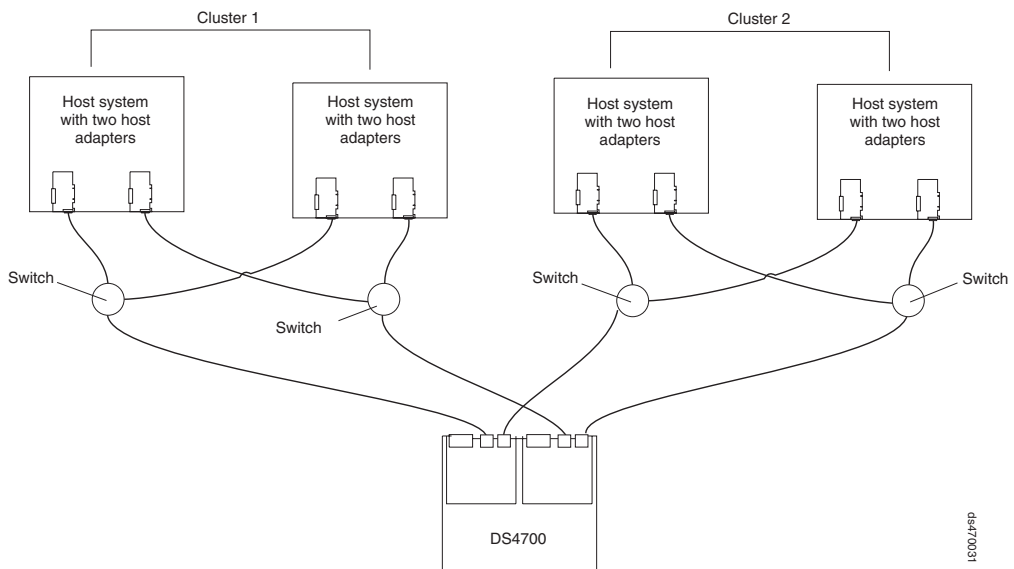

Figure 90. Example of a two-cluster configuration
- Two clusters, as shown in Figure 90 on page 108
Figure 90 shows an example of a two-cluster configuration.